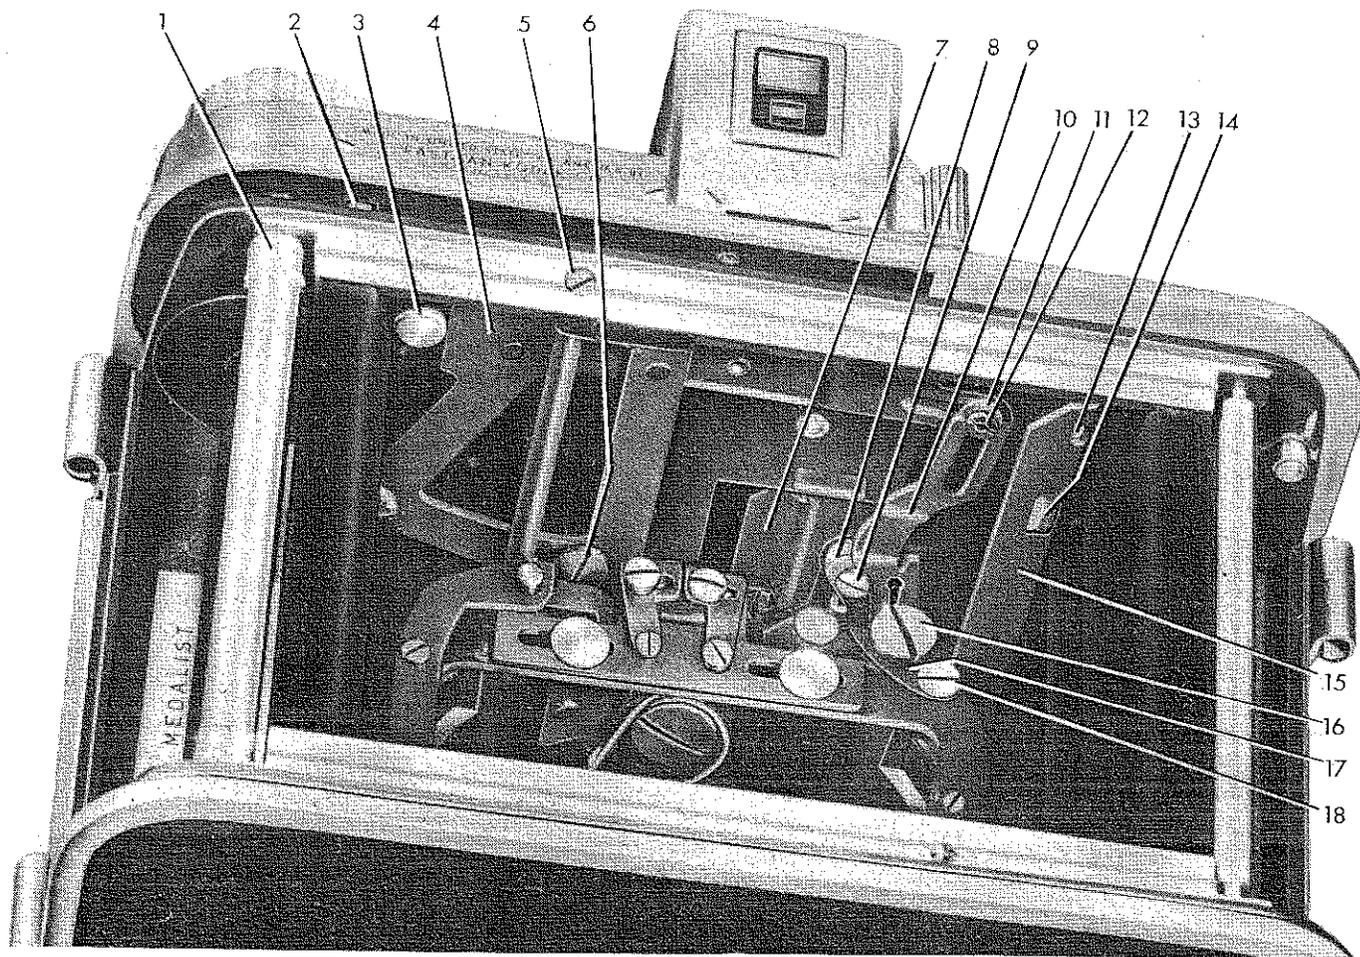

Figure 22—Parts Under Mechanism Plate
b. RANGE FINDER ACTUATING LEVER LINK. (See figure 22.)—The range finder actuating lever link (10) is located inside the camera. The end of the link toward the back of the camera is slotted and slides forward and back as the focusing tube assembly is moved in and out.